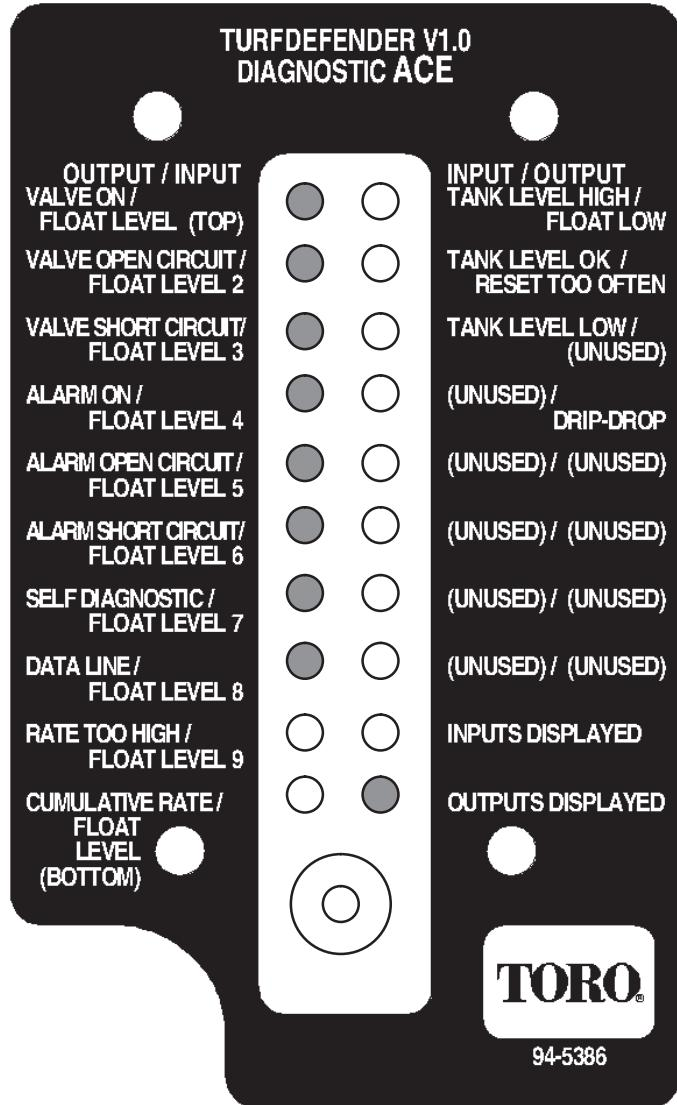

Figure 14
2. Press toggle button until green “Outputs displayed” LED is lit. “Valve ON”, “data line” and “self diagnostic”LED’s should be lit steadily. “Alarm ON” LED may be displayed temporarily (about 5 seconds) (Fig. 14).
4. Toggle “outputs displayed” on ACE Diagnostic display (Fig. 14).
2. When toggling “output” a LED should display (Fig. 14) any of the following problems diagnosed by the TurfDefender: